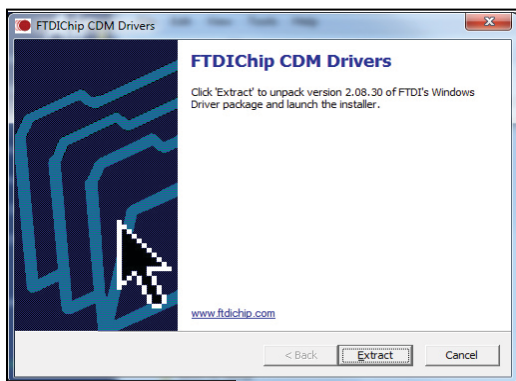

Fig. 3 Extract Driver
2. You will see the screen shown in Fig. 3. Click Extract.